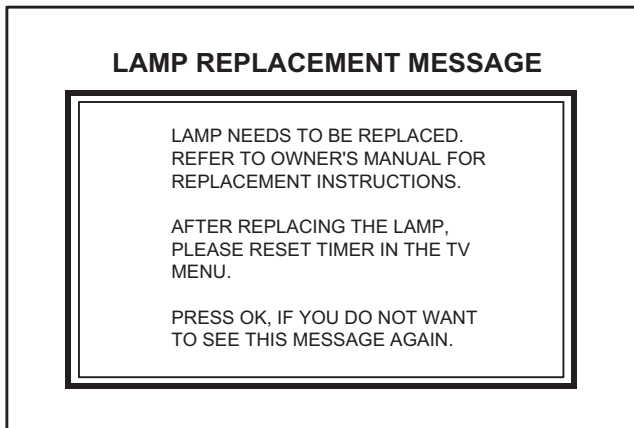

Fig.1
- (1) The lamp replacement message will appear when need to change the lamp. After replace the lamp, need to reset the timer which is built into TV.
- (2) Life of the lamp unit is about **5000 hours** over. Lamp use time can be check at the lamp message MENU.
- (3) If Fig.1 message appears when turn the TV on, need to replace the lamp.
- (4) Use the lamp timer reset only after replacing the lamp.